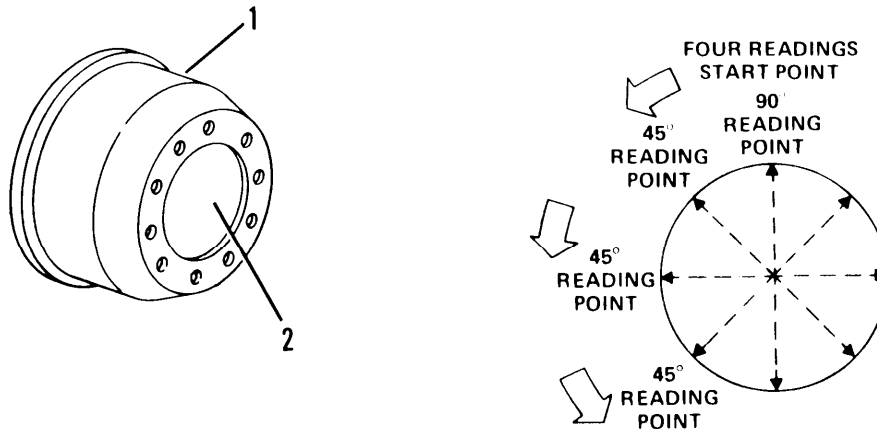

Figure 5-8. Checking Brake DRUM for Out-of-Roundness
- a. Clean brake drum (1, fig. 5-8) with dry cleaning solvent (PD-680).
- b. Check brake drum (1) for wear, cracks or damage. Replace, if necessary.